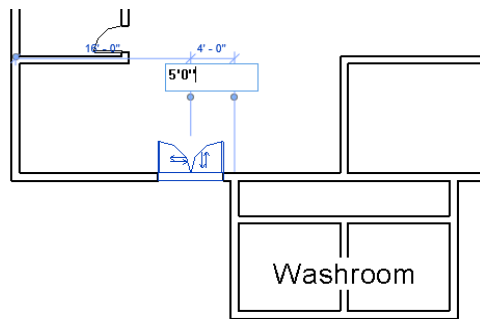

Figure 3-81 Using the dimension to place the door at the exact location
12. Move the cursor near the exterior wall side near to the washroom, as shown in Figure 3-81, and click to add the entrance door close to this location.
13. Choose the **Modify** button and select the door and then click on the right side dimension to set it to **5'0"** for Imperial or **1500 mm** for Metric, as specified in Figure 3-81.